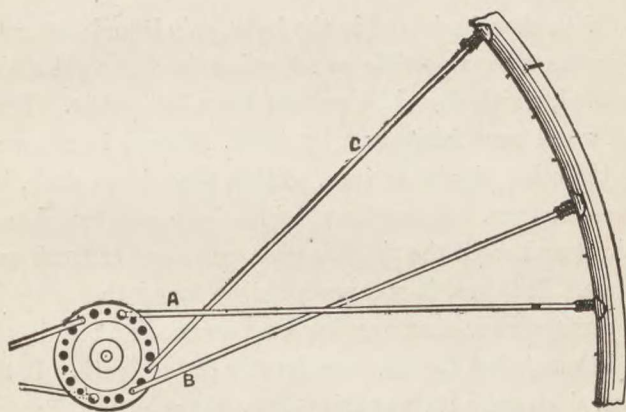

Fig. 37.—Building 40-spoke Wheel
**Wheels.**—It will be best to begin on the wheels, unless the reader has a pair of similar-sized and pattern wheels by him, for this reason. The back wheel will be required for setting the forks and building the frame, and the front wheel will be necessary for a similar purpose for the front forks. The hubs are drilled 40 back and 32 front. The back wheel will be taken first (see Fig. 37). Thread a spoke through one hole in the flange, and another through the next hole. Cross this pair of spokes, and bring them up to the holes in the rim fifteen apart; that is, there should be thirteen vacant holes between the two occupied by the first pair of spokes. Slip nipples on the ends of these spokes, and just screw up a few threads with the fingers. Lace another pair of spokes through the same hub flange opposite the first pair, bring these up to the rim as the first pair, and screw on the nipples. There should now be five vacant holes between one spoke of the first pair and one of the second pair on each side. Turn over the rim and hub, and put in two pairs of spokes on this side in a similar manner to the first. Go carefully round the rim and hub to see that spokes are equally spaced in the rim and hub flanges, and come up to the proper holes in the rim in relation to the holes in the flanges.